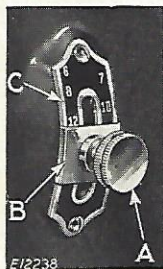

FIG. 11A
The machine can be adjusted to make from 6 to 30 stitches to the inch as indicated by the numerals on the stitch indicator plate (C, Fig. 11A).
The number of stitches to the inch that the machine is set to make is indicated by the number which is in line with the upper edge of the stitch indicator (B, Fig. 11A).
To change the length of stitch, loosen the thumb screw (A, Fig. 11A) and move it up or down until the upper edge of the stitch indicator (B) is in line with the bottom of the number of the desired length of stitch, then tighten thumb screw (A).